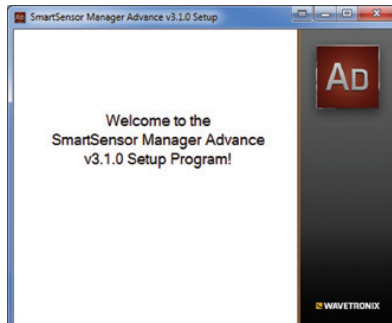

Figure 3.1 – SSMA Setup Wizard
- 6 Once you've downloaded the file, double-click on it. This will execute a setup program that will copy all the necessary files to the hard drive and place icons in the Start menu and on the desktop of the PC or laptop (see Figure 3.1).